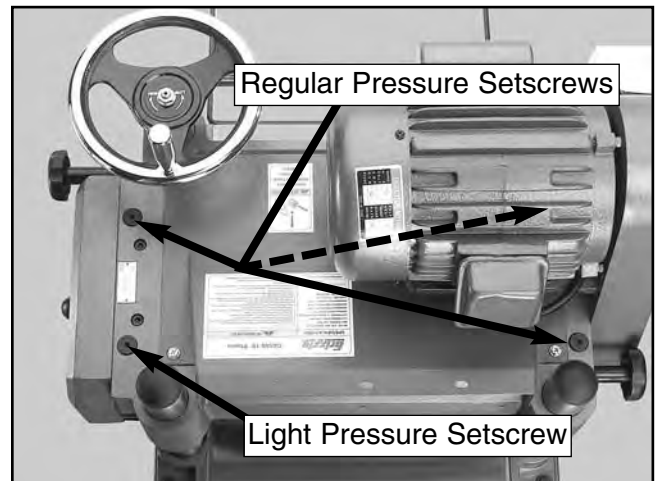

Figure 41. Roller pressure setscrews.
3. Unscrew the three regular pressure setscrews on top of the planer body. See **Figure 41.**